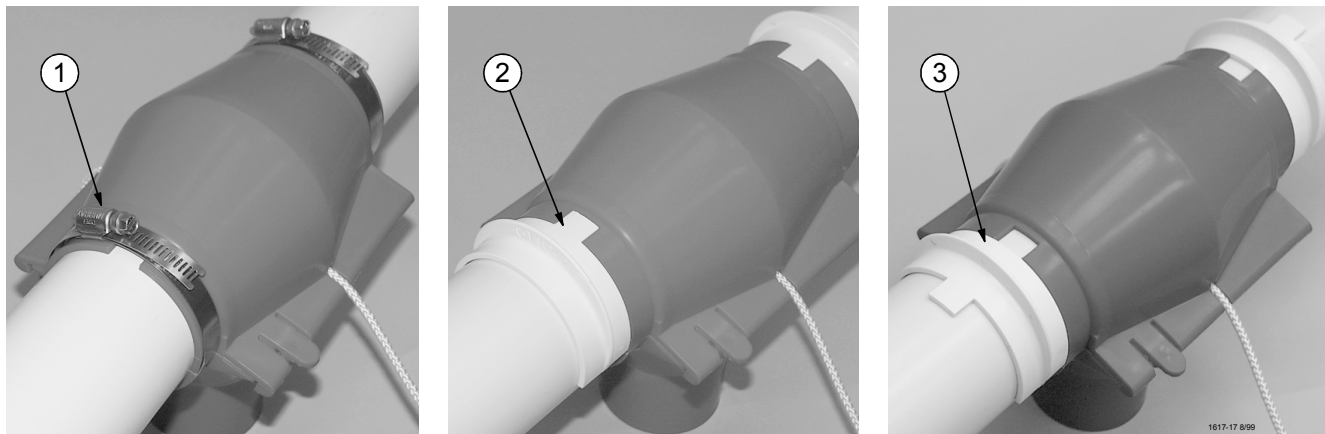

Figure 7. Installing the Retainers on the Outlet Assembly
6. Now add Clamps or Retainers (as ordered) to the Outlet Assembly to prevent it from sliding and/or rotating on the pipe. Clamps will prevent the Outlet Assembly from sliding or rotating on the pipe. Retainers can be used in two different ways. Retainers may prevent the Outlet Assembly from sliding or rotating on the pipe, or prevent the Outlet Assembly from sliding on the pipe, but allow it to rotate. **Figure 7** shows the three different methods for holding the Outlet Assembly in place.